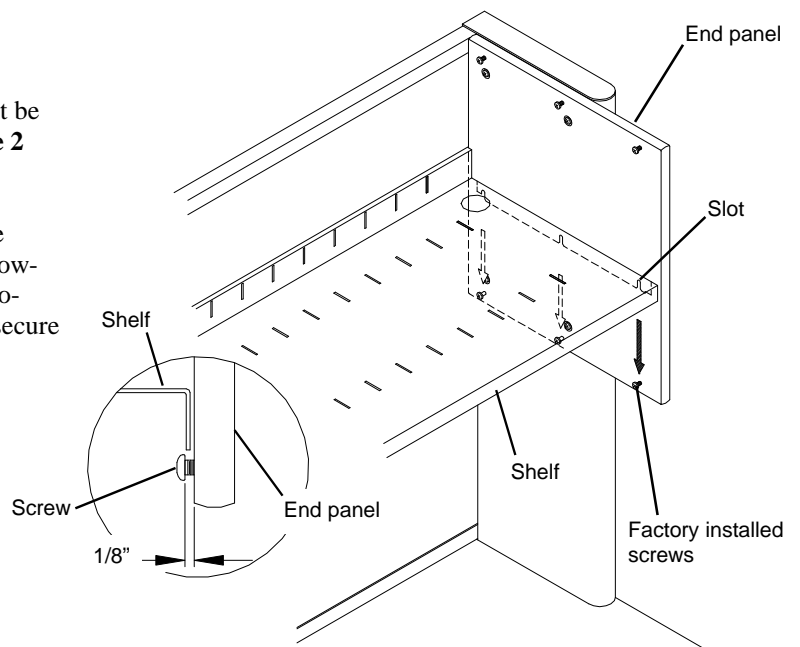

Figure 2
1. There are three factory screws installed along the bottom edge of each End Panel. These screws must be backed out approximately 1/8" as shown in **Figure 2** (inset).
After backing out all six lower screws, position the **Shelf** between the End Panels above the screws. Lower the Shelf so that all six screws engage their corresponding slots in the Shelf. Tighten the screws to secure the Shelf. See **Figure 2**.
1. Two **Top Panels** are required, installed one at a time. Be sure the three screws along the top edge of each End Panel and on both sides of the Center Panel are backed out 1/8" as shown in **Figure 2**.